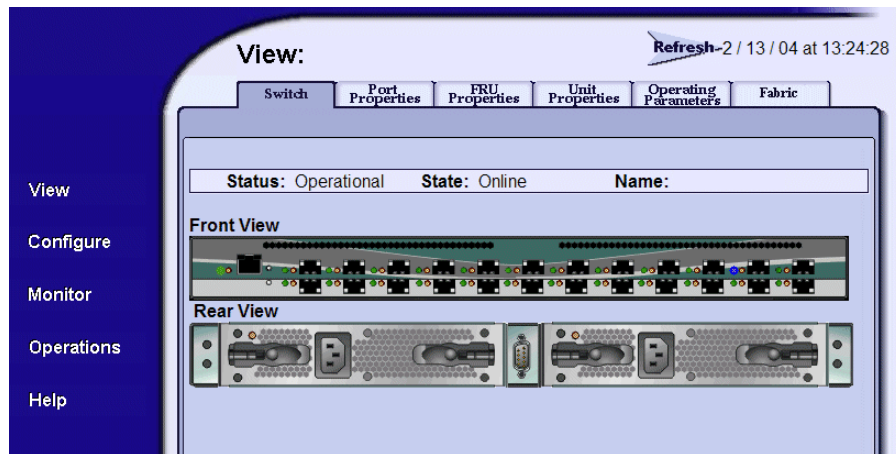

Figure 3: View Page
4. Type the user name and password. The EWS interface opens with the **View** page displayed, as shown in Figure 3.